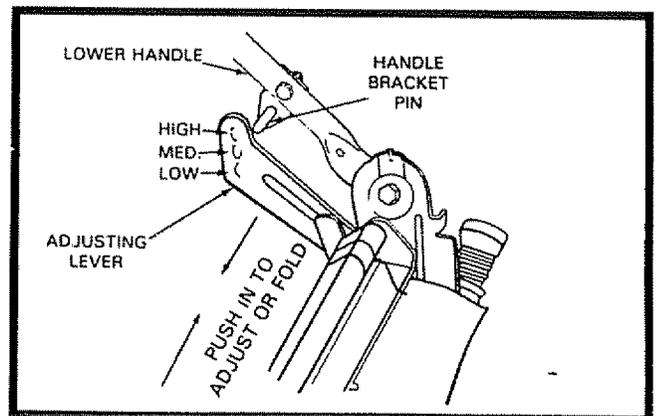

FIG. 24
- The Handle on your lawn mower has three (3) heights - adjust to the height that suits you.
- To adjust the Handle, push in on the Adjusting Levers to clear the Pins (See Fig. 24).
- To fold, push in on the Adjusting Levers to clear the Pins, then move Handle forward (See Fig. 24).